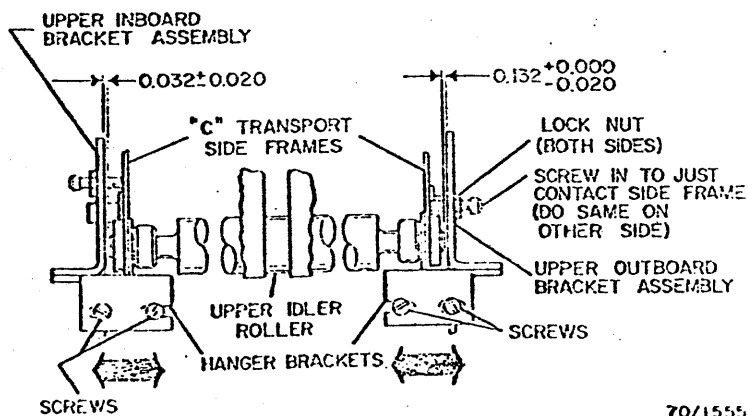

Fig. 3-201. C Transport Clearance
2. Adjust both the inboard and outboard upper brackets in accordance with Fig. 3-201.